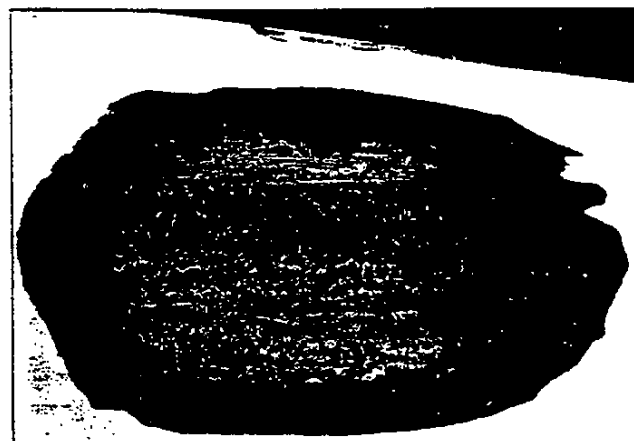

Fig. 61—Repair Area Finish Sanded
2. Featheredge the repair area with No. 220 wet or dry sandpaper and finish block sand with No. 320 wet or dry paper. Figure 61.